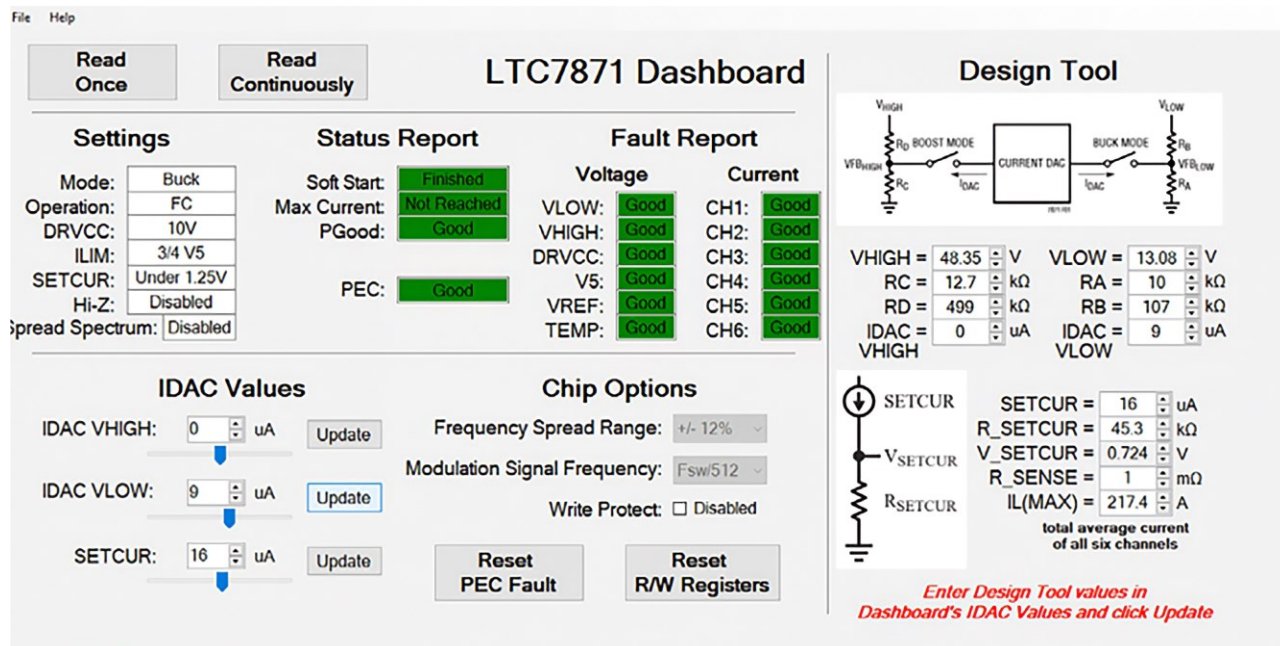

Figure 6. Graphic User Interface (GUI) Is Available in QuikEval Software
20. Use QuikEval to monitor and control the LTC7871. The LTC7871 QuikEval GUI is shown in Figure 6. The dashboard is on the left, and an optional design tool is on the right.